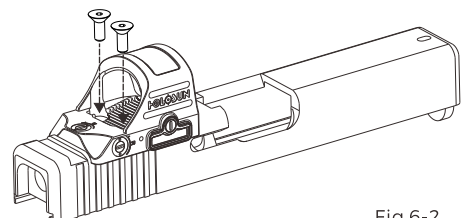

Fig 6-2
3. Use either the included screws or screws supplied with your slide or from your gunsmith and tighten to 15 INCH/lbs using a non-permanent (medium/blue) thread locker. (Fig6-2)